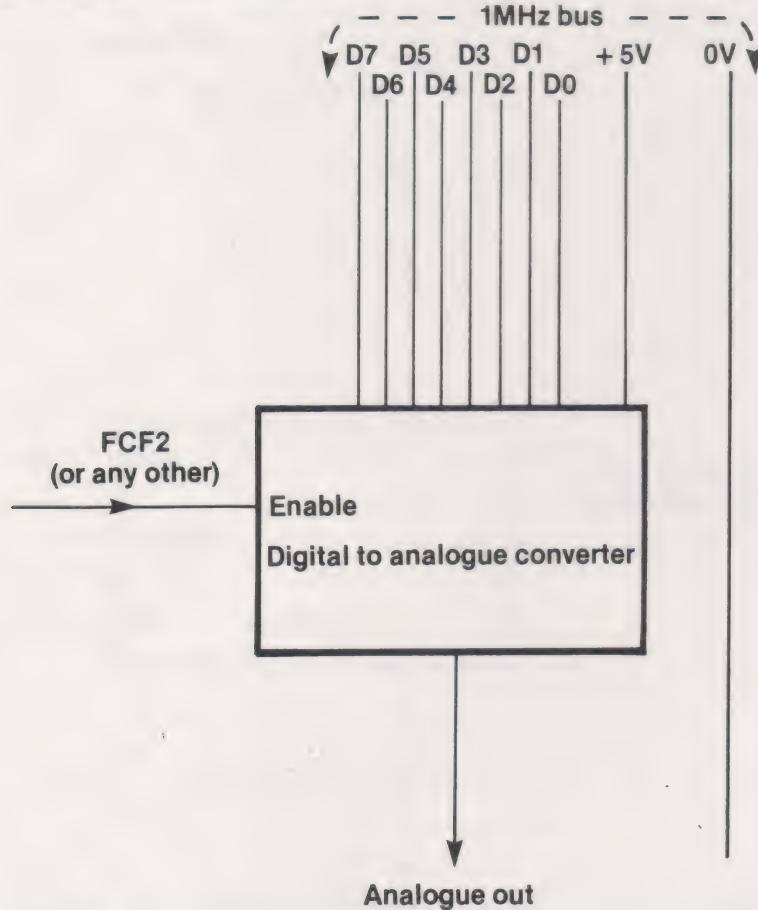

Fig. 1.8. Converting digital information to analogue output.
Figure 1.8 is another example of a device requiring the data bus, which is needed, of course, for receiving the digital data.
- 1.14 With reference to Fig. 1.8, if the maximum output is 2.55 volts, what output voltage is obtained when the digital data is 3F hex?